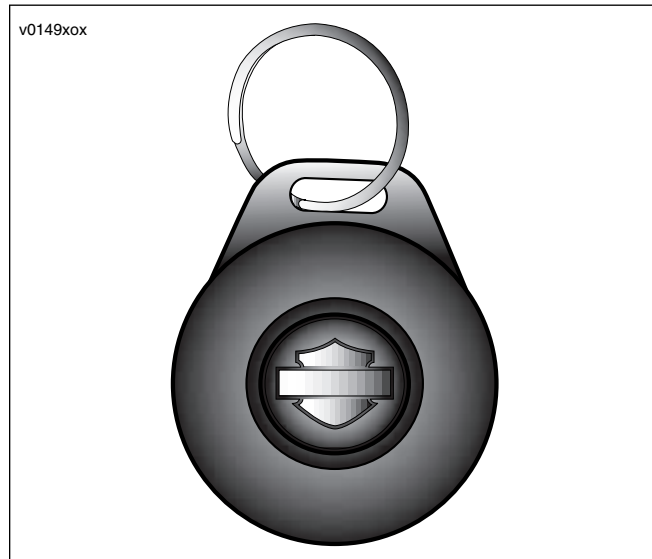

Figure 8-39. Key Fob
- **Remote arming/disarming:** See Figure 8-39. Owners may enable or disable security alarm and immobilization functions with a remote, personally carried transmitter.